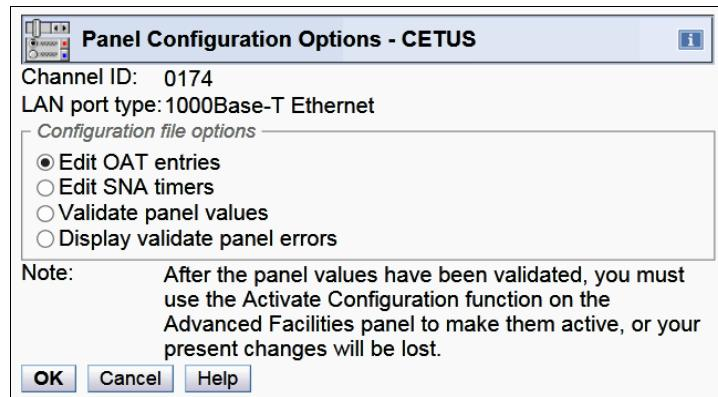

Figure 6-8 OSA/SF on the HMC: Configuration file options
4. The Panel Configuration Options window opens (Figure 6-8). You can define these items: